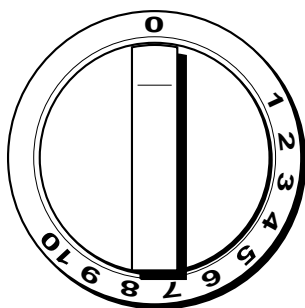

Fig. 4.1
The numbers 1 to 10 printed on the knob (fig. 4.1) indicate the increasing oven temperature value (see table 4.2).
- 2 – Press in the oven control knob (fig. 4.1) and turn counter-clockwise to position 10. Keep the knob pressed.